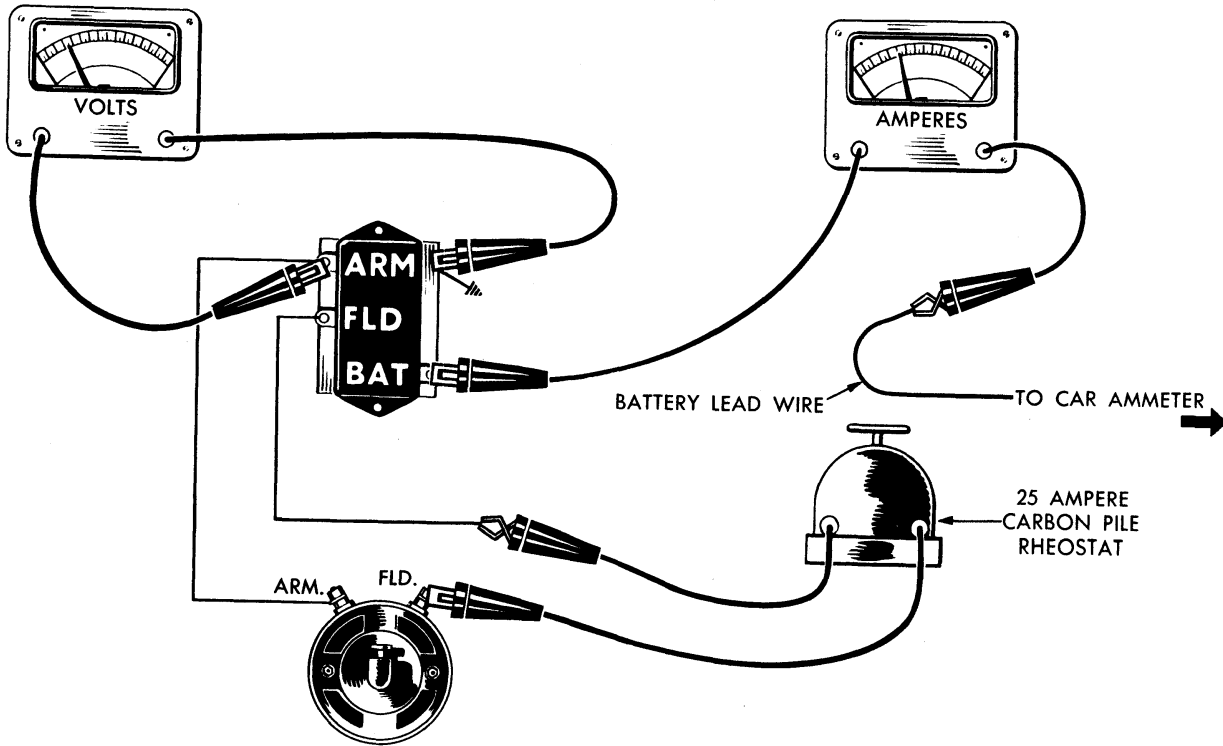

Fig. 14—Cut-Out Relay Test
34. TESTING CUT-OUT RELAY (FIG. 14)